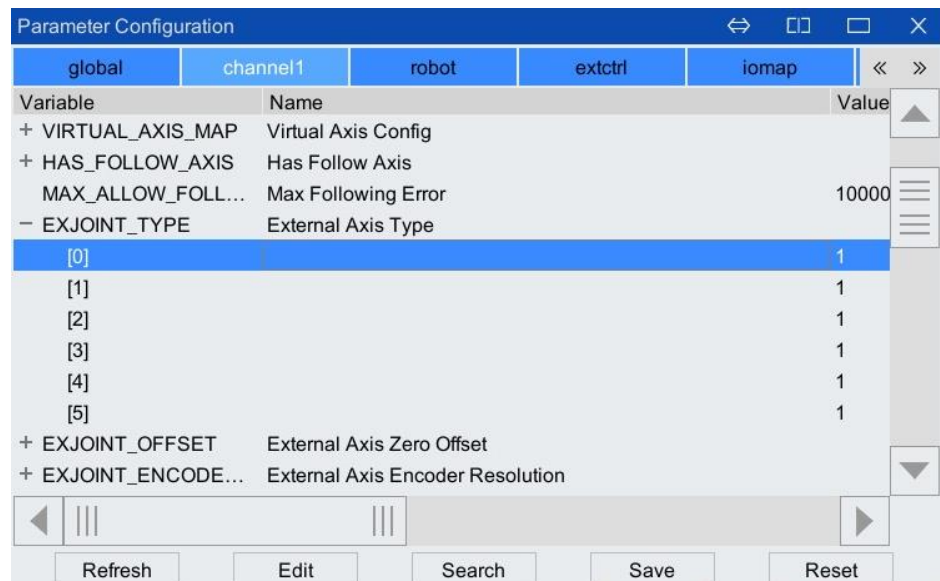

Figure 6-15 External axis type (EXJOINT_TYPE) parameter configuration interface
Step1. Select [System/Parameter Configuration/Channel] in the upper right corner of the teach pendant main interface, click [+] on the left side of the [EXJOINT_TYPE] parameter, and see that the value of the [0] sub-item is "1" in the expanded sub-items. As shown in Figure 6-15.